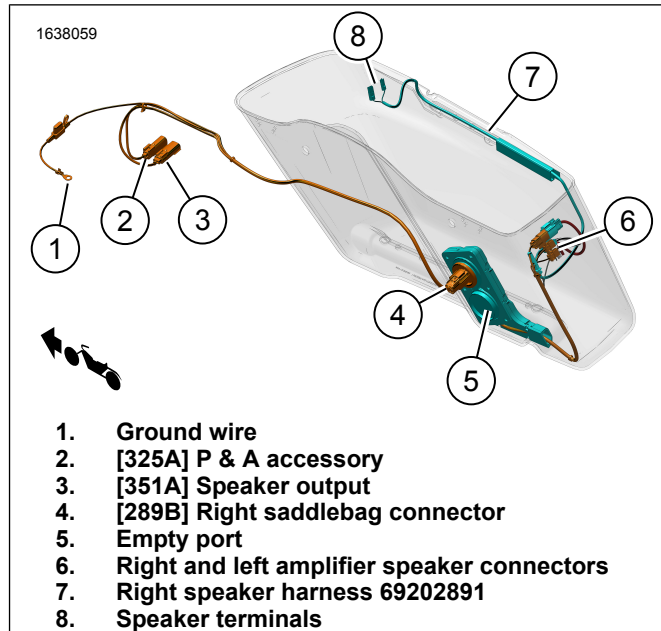

Figure 5. Right Saddlebag Harness Routings
- g. Route wire harness (5) through grommet hole.
- h. Install grommet (3) on wire harness (5).
- i. Adjust grommet (3) as needed and install in saddlebag.
13. Figure 5 Install right speaker harness.
- b. Figure 5 Route wire harness (7) as shown.